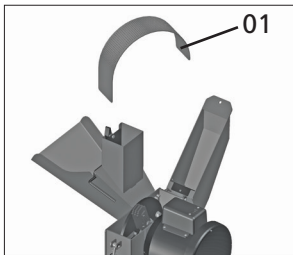
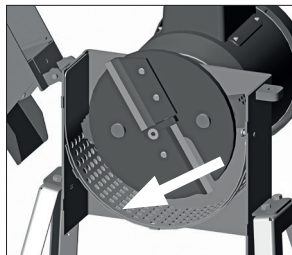

Fig. 09
Fig. 10
Insert the sieve starting with the curved side (1), [Fig. 09]. Open the lid and insert the sieve so that the curved side rests completely on the guides inside the machine [Fig. 10].